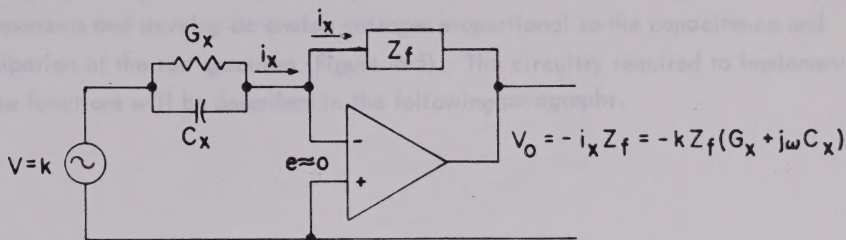

Figure 4-3
These requirements are met by using a high-gain operational amplifier connected in the inverting mode (Figure 4-3).
3. Capacitance-to-Voltage Converter The input amplifier described in Paragraph 4-2 is used to convert capacitance to analog voltage. This stage is followed by an inverting amplifier which provides gain and phase blurring for each capacitance range (Figure 4-3).